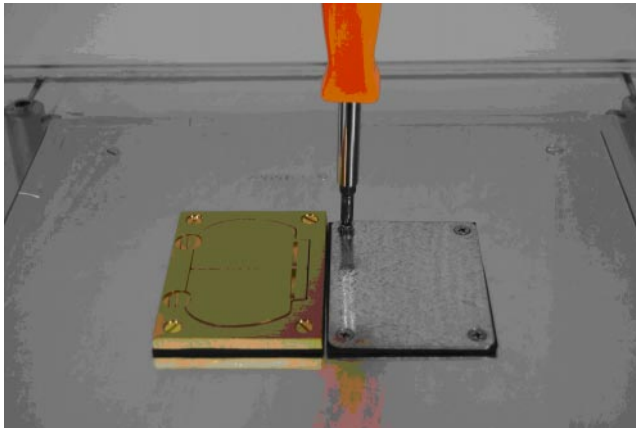

Figure 7
2. Install the single duplex blank cover plate over the gasket using four 8–32 x 3/8 in. screws, provided. Tighten the screws to 1.35–1.69 N•m [12–15 lb-in.]. The single duplex gaskets should compress slightly. See Figure 7.